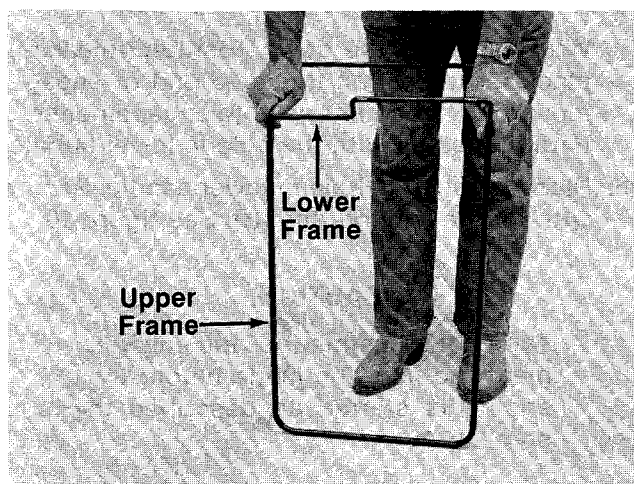

FIGURE 13.
1. Join the upper frame and lower frame assembly as shown in figure 13.